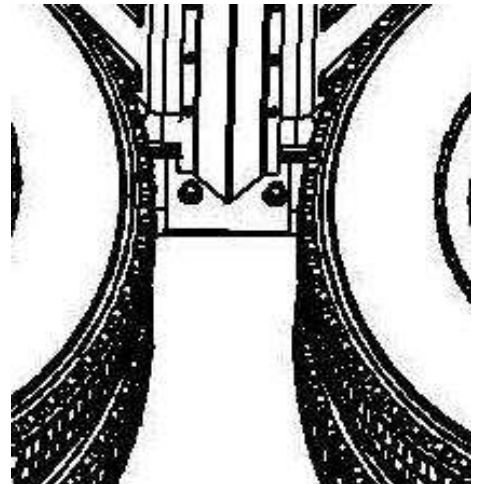

Figure 19
- A. The center bracket PB2011 will be welded to the truck frame. It is possible to bolt a plate (not supplied) to the frame and weld the brackets to that plate (Figure 19). Another option is to weld the bracket directly to the frame.